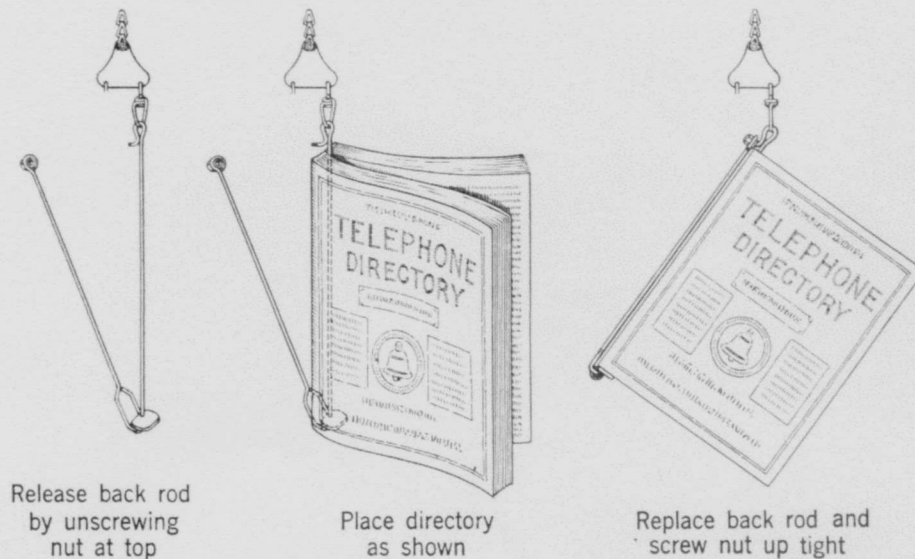

Fig. 8—Placing Directories in Hangers
4.01 Placing directories in hangers is shown in Fig. 8.